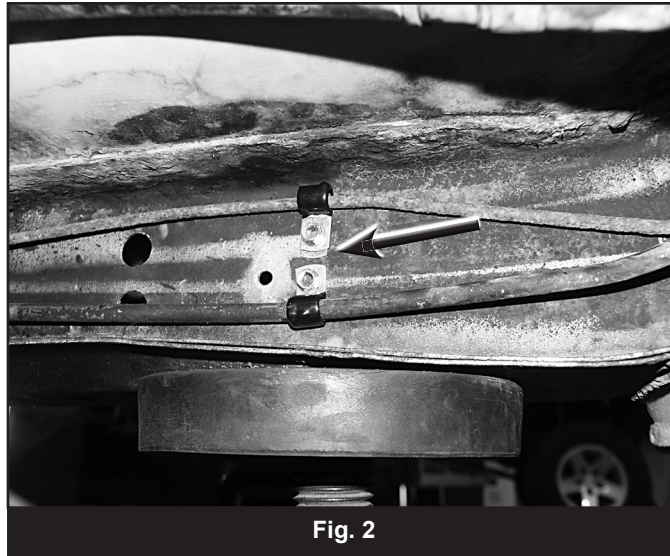

Fig. 2
6. Locate the hole in the frame where the original plastic retaining clip was installed. Install the brake hard line to the frame with the provided clip and self-drilling screw just ahead (1/2" max) of the existing hole in the frame (Fig 2). Position the line up against the floor with the clip mounting tab pointing down. Carefully reform the brake line as needed. Tighten screw securely.
7. Attach the fuel line in the same manner as the brake line. Position the clip directly below the brake line clip with the mounting tab pointing up (Fig 2). This will make the fuel line run low, close to the uni-body pinch weld.